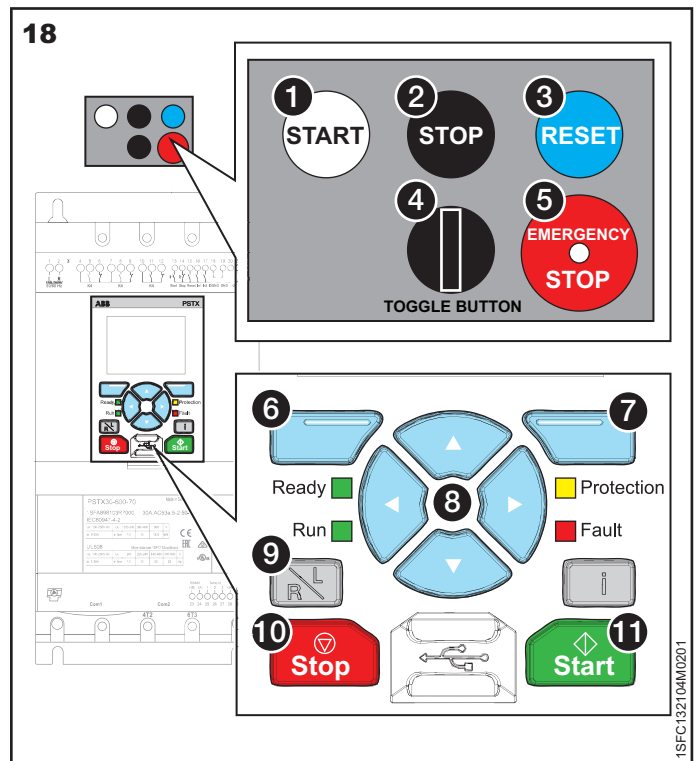

Figure 18: User guide
See **1** in **Figure 18**.
See **11** in **Figure 18**.
See **2** in **Figure 18**.
See **10** in **Figure 18**.
See **5** in **Figure 18**.
See **3** in **Figure 18**.
- Press Options ► Active faults/protections on the PSTX HMI, See **6** in **Figure 18**.
See figure **4** in **Figure 18**.
- Press Menu ► Motor jog ► left arrow on the Navigation keypad on the PSTX HMI, See **7** and **8** in **Figure 18**.
- Press the black toggle pilot device to the right for forward pump cleaning (make sure that remote control is selected on the PSTX HMI). See figure **4** in **Figure 18**.
To change control of the PSTX softstarter between local control and remote control, press the L/R button on the PSTX HMI, See **9** in **Figure 18**.